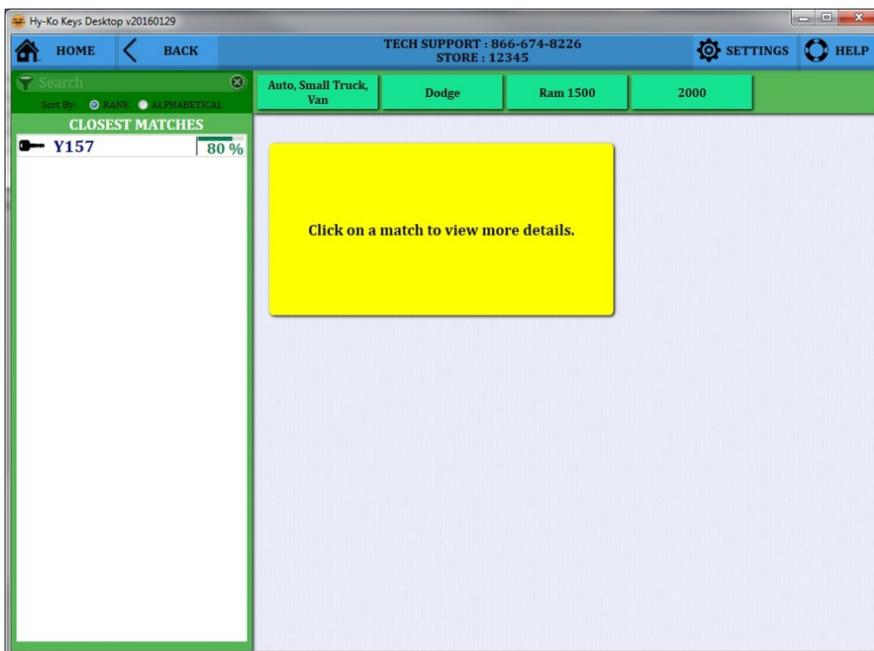

fig. 62
- Your list of possible keys for the vehicle chosen will be shown at the left (see fig. 62).